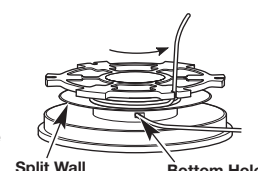
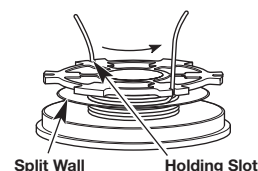

Fig. 15
Fig. 16
3. Insert the end of the other line into the bottom hole in the inner reel (Fig. 15). Wind the line tightly in the direction shown on the bottom of the inner reel until about 3 to 9 inches (75 to 225 mm) of line remains. Keep the line below the split wall. Insert the 3 to 9-inch section into the opposite .095 holding slot (Fig. 16).